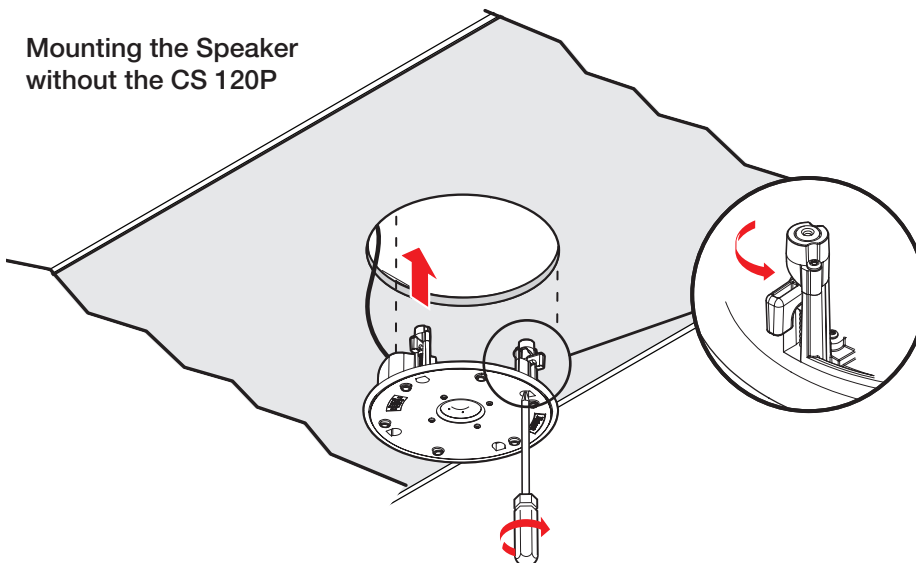

Figure 21. Mounting the Speaker
20. Mount the CS 3T (see figure 21).